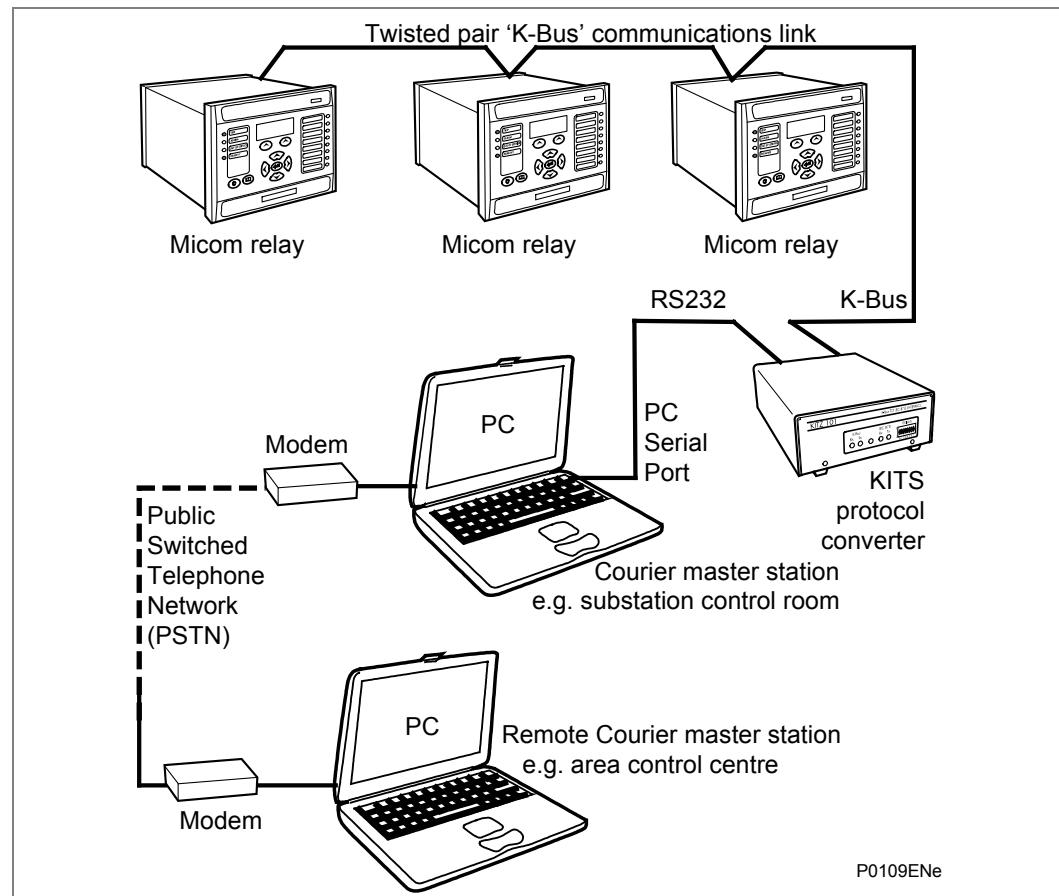

Figure 2 – K-bus remote communication connection arrangements
| Figure 2 – K-bus remote communication connection arrangements | 11 |
4. The next cell down the column controls the address of the relay. As up to 32 relays can be connected to one K-Bus spur (see Figure 2), each relay must have a unique address so messages from the master control station are accepted by one relay only. Courier uses an integer (from 0 to 254) for the relay address that is set with this cell. Important: no two relays should have the same Courier address. The master station uses the Courier address to communicate with the relay.